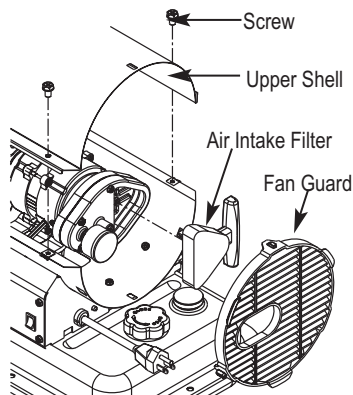

Figure 9 Air Filter Access
- Remove upper shell and fan guard (See Air Intake Filter Figure 9).